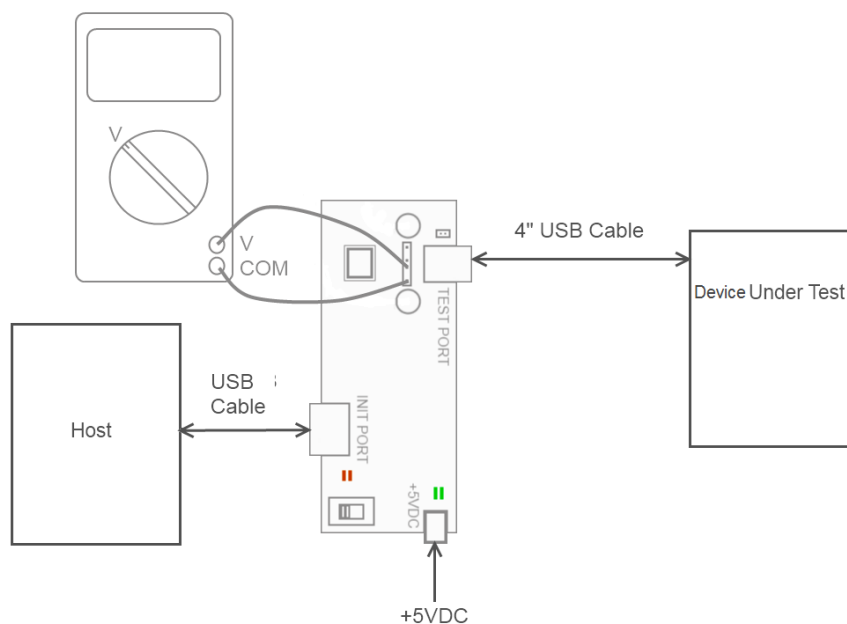

Figure 52. Device Test_J/K, SE0_NAK Test environment
2. Connect the equipment and test fixture as shown in Figure 52.